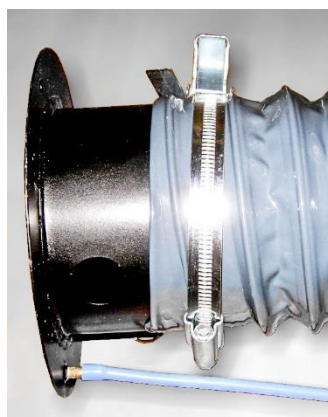

Figure 5. Connecting Pressure Tubing to Tap on Primary Duct Adapter. Bung not shown.
- If the static pressure tap on the black Primary Duct Adapter is open to the duct, connect the 16 ft (5 m) long blue silicone tube to it as shown in Figure 5.
3. Connect the (+) port on the Model PVM610 to measure the duct static pressure (see Figure 5).